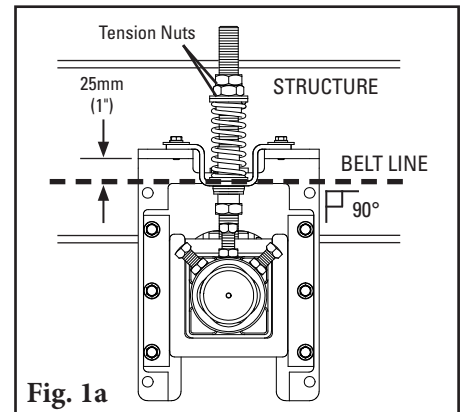

Fig. 1a
1. **Install the spring tensioner mounting bases.** Clamp the mounting base into position so the top flange of the base is 25 mm (1") above the belt (Fig. 1a). Bolt or weld the mounting base in place. Locate and install the mounting base on the opposite side.
1. **Install the air/water tensioner mounting bases.** Clamp the mounting base into position so the top flange is even with the belt (Fig. 1a). Bolt the mounting base in place. Locate and install the mounting base on the opposite side.